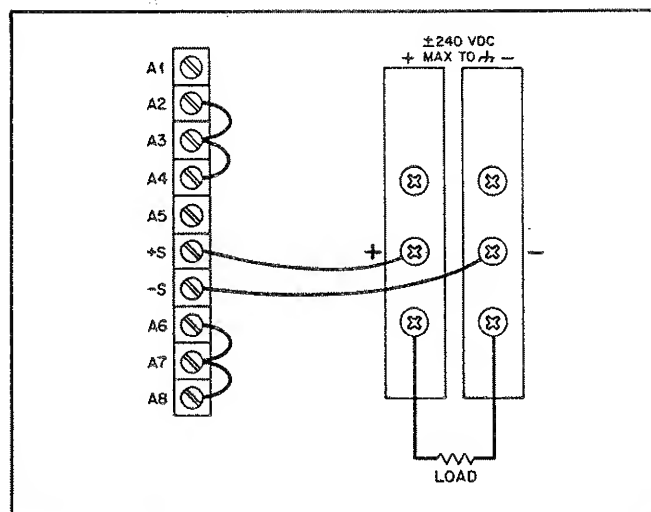
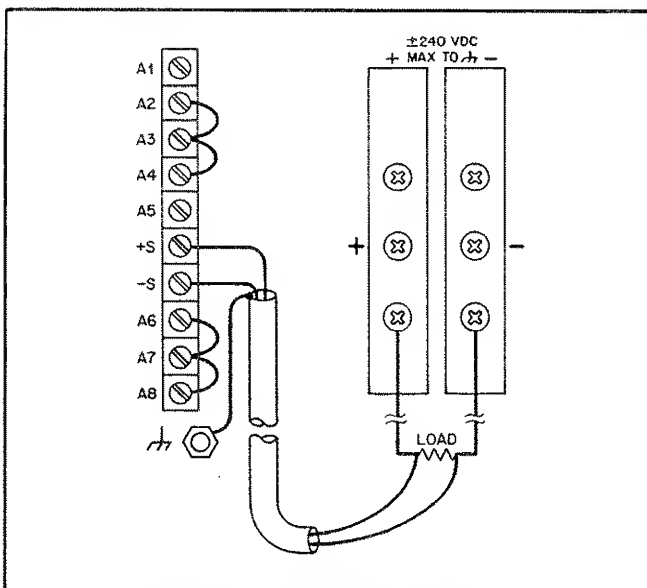

Figure 3-3. Normal Strapping
Figure 3-5. Remote Sensing
a. Ensure that rear terminal board straps are connected as shown in Figure 3-3, but do not connect load. Check that rear-panel label indicates unit is set for line voltage to be used. If it is not, refer to Section II, Line Voltage Option Conversion. If unit is equipped with System Option 002 ensure that option cable is disconnected from rear-panel option connector before proceeding.
b. Ensure that CURRENT control (8) is rotated clockwise at least two turns and OVP ADJUST potentiometer (10) (screwdriver adjust) is fully clockwise.
c. Press pushbutton LINE switch (1) on (pushbutton in) and observe that green LINE indicator turns on and that fan operates.
d. Turn VOLTAGE control (3) through output voltage range of unit as indicated on voltmeter (12). Green VOLTAGE light (4) should be lit across entire range indicating that supply is in constant voltage mode.
e. Check overvoltage circuit by turning OVP ADJUST control counterclockwise until output voltage drops. Output voltage should drop to  $\approx 0$  volts and red OVP (9) and OUTPUT UNREGULATED (5) indicators should light.
h. Turn supply back on and rotate CURRENT control (8) through output current range of unit as indicated on ammeter (11). Green CURRENT light (7) should be on across entire range indicating that supply is in constant current mode.
3-20 The power supply was shipped with the proper rear-panel strapping connections made for constant voltage/constant current operation with local sensing and local programming. This strapping pattern is illustrated in Figure 3-3. By means of the front-panel voltage and current controls, the operator selects either a constant voltage or a constant current output as described in Paragraphs 3-27 or 3-29. Whether the supply functions in the constant voltage or constant current mode depends on the settings of the VOLTAGE and CURRENT controls and on the value of the load resistance.
3-38 Because of the unavoidable voltage drop developed in the load leads, the normal strapping pattern shown in Figure 3-3 will not provide the best possible voltage regulation at the load. The remote sensing connections shown in Figure 3-5 improve the voltage regulation at the load by monitoring the voltage there instead of at the supply's output terminals. (The advantages of remote sensing apply only during constant voltage operation.) When using remote sensing, turn off the power supply before changing the rear-panel straps, sense leads, or load leads. The following paragraphs discuss some precautions that should be observed when making a remote sensing installation.